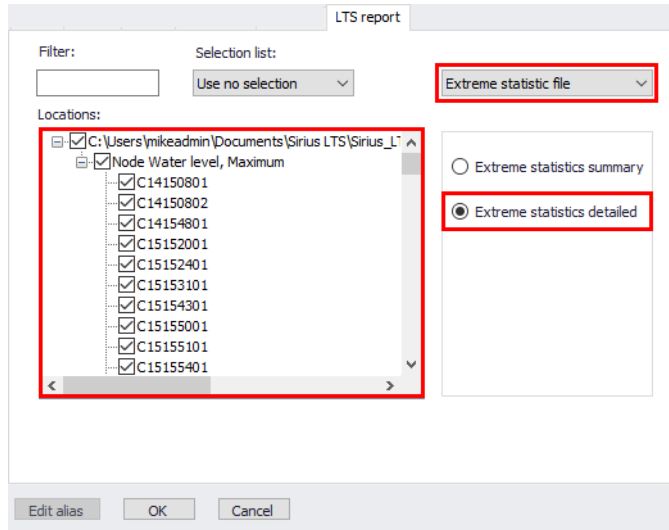

Figure 20.70 Detailed LTS extreme event statistics report configuration
- Access the ‘LTS Report’ tab on the ‘Result Items’ dialog (Figure 20.70).
- Choose to generate a report with the ‘Extreme statistics file’ from the dropdown menu on the upper right side of the page (Figure 20.70).